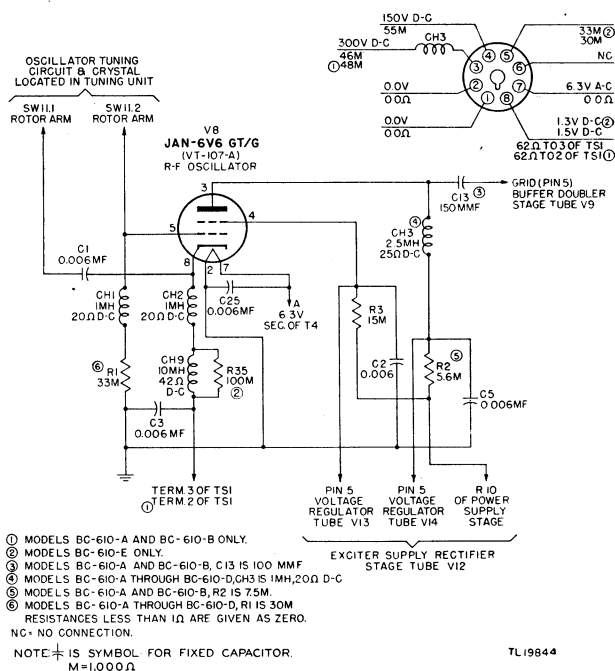

Figure 28. Radio Transmitter BC-610-(*), r-f oscillator stage, schematic wiring diagram.
25. R-F Oscillator Stage (fig. 28)